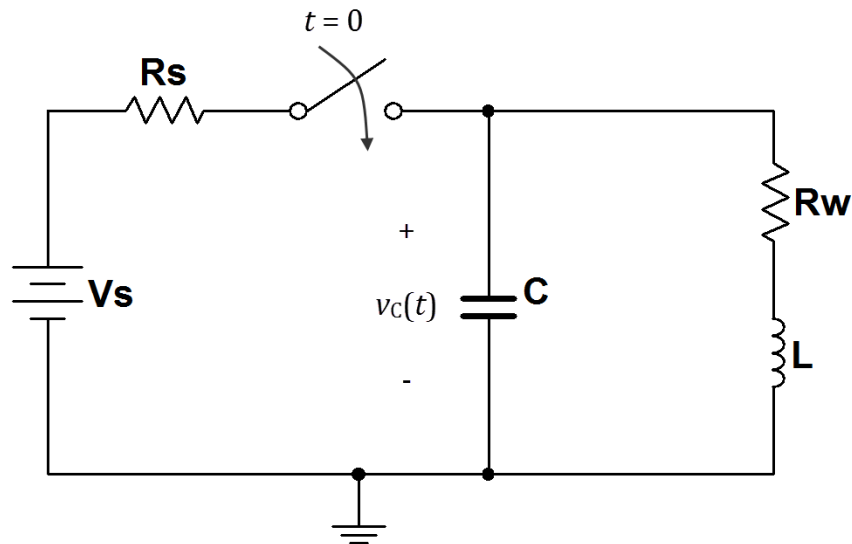

Figure 6.3: Circuit for Problem 6.3
1. Develop a differential equation for $v_C(t)$ in the circuit of Figure 6.3. Solve it to determine $v_C(t)$ for $t \geq 0$. The component values are $V_S = 8$ volts, $R_S = 680 \Omega$, $C = 1.0 \mu\text{F}$, $L = 33 \text{ mH}$, and $R_W = 90 \Omega$.
1. Enter the circuit of Figure 6.3 on the facing page using the same component values listed in the problem statement. Implement the switch with a `VOLTAGE_CONTROLLED_SWITCH` operated by a `PULSE_VOLTAGE` source configured to open the switch at time 1 ms; this delay makes the initial transition easier to see.
1. Construct the circuit of Figure 6.3 on the preceding page using the following components and NI ELVISmx instruments (do *not* place the resistor R_W as this simply models the finite wire resistance of the inductor):